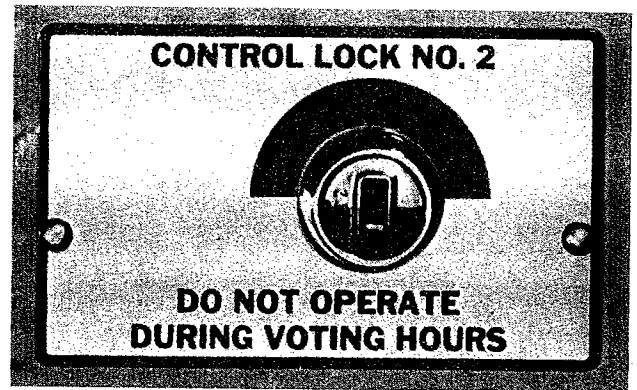

Figure 11. Control Lock No.2 in UP position.
7. Turn Control Lock No.2 so red segment of lock is in UP position (Figure 11). This will allow the Entrance Button to be pushed in and the Main Operating Lever (red handle) to be moved to voting position (all the way to the right) when desired. If Control Lock No.2 cannot be turned up, set After Election Latch as described in Section H, Page 4.